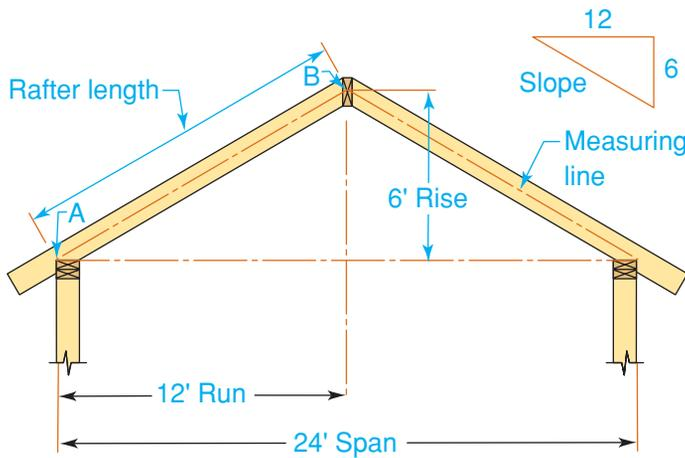
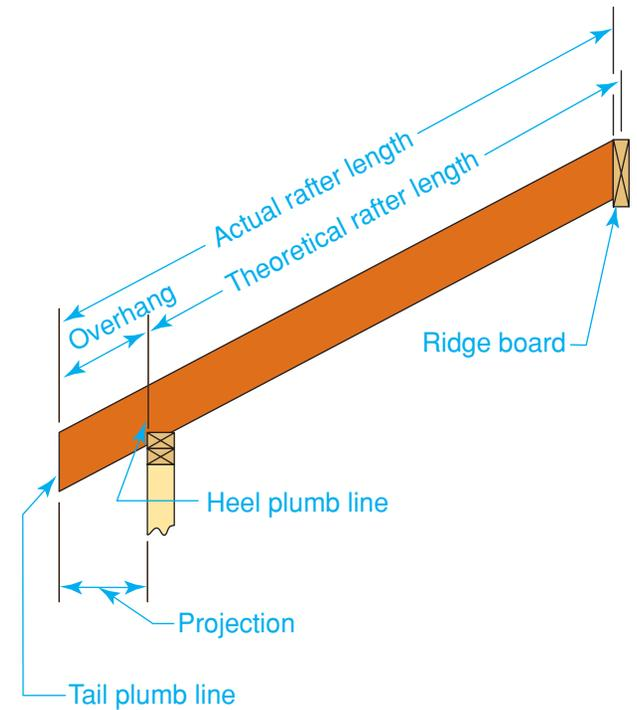

Figure 17-16 Theoretical Rafter Length
Figure 17-17 Actual Rafter Length Comparison The actual and theoretical length of a common rafter.
Look at **Figure 17-16** and **Figure 17-17**. The *theoretical length* of a common rafter is the shortest distance between the outer edge of the plate (A) and a point where the measuring line of the rafter meets the ridge line (B). This length is found along the measuring line. It may be calculated in the following ways: